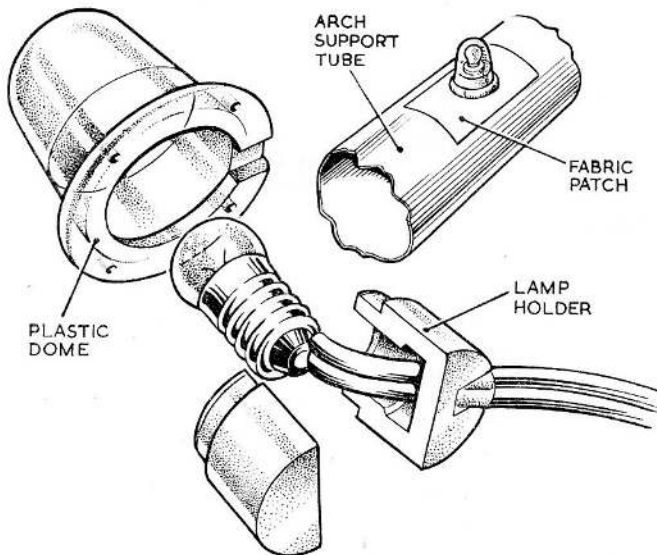

Fig. 2. Dismantled Lamp housing, with inset showing fixing to cot
4. The lamp housing comprises a filament lamp and a polythene lamp holder, enclosed in a transparent plastic dome (*fig. 2*). The housing is stitched to a fabric patch, and secured by adhesive to the arch support tube of the cot. With the cot inflated, and the canopy fastened in place, the plastic dome projects through a rubber aperture in the canopy.